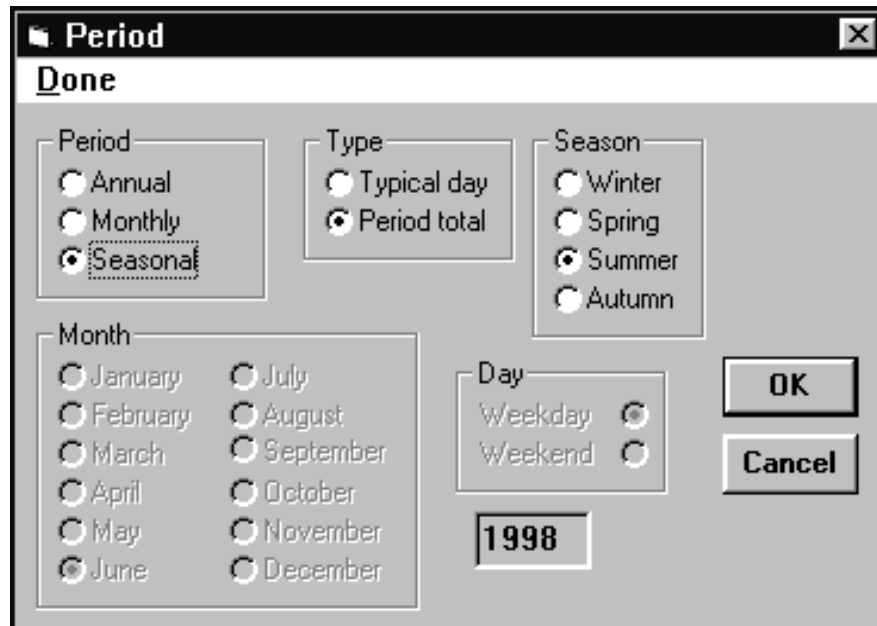

Figure 3-4: Period screen.
1. After you have defined the parameters in the **Options** submenu, use the left mouse button to click on **Scenario** (or press <Alt-S>) and then **Period** (or press <E>). The Period screen will appear (Figure 3-4). The interface makes it easy to define the modeling period through a series of select buttons. The following options are available to you: